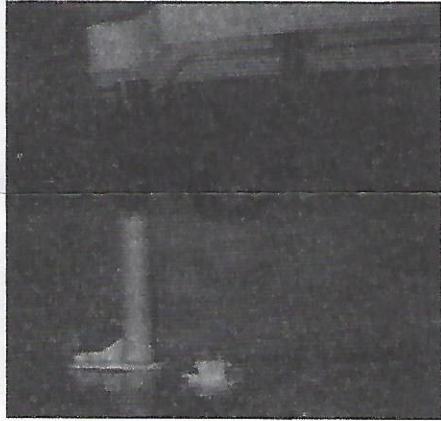

FIGURE 4
7. Final installation position. See Figure 4.